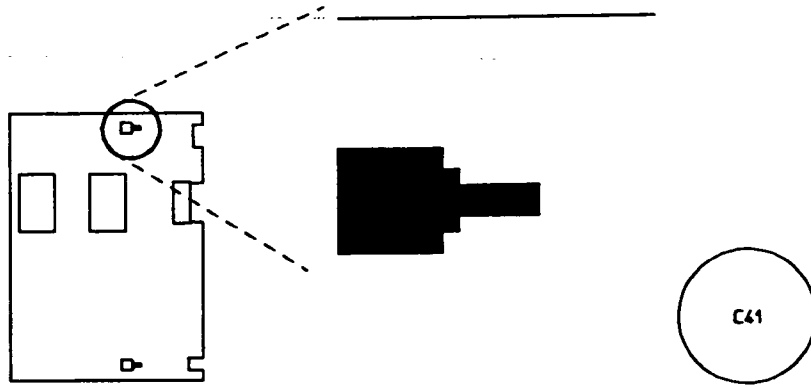
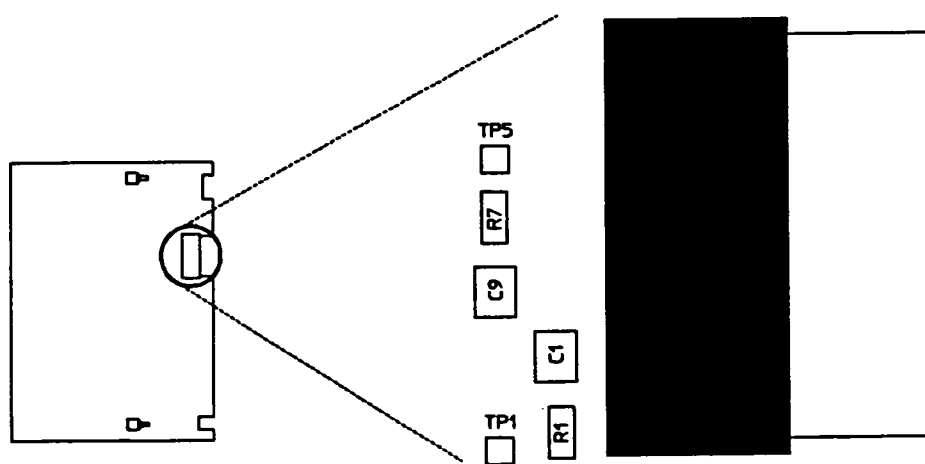

Figure 2-67. A6J2 Location
Figure 2-68. A6J4 Location
10. With the board outside of the Peak Power Analyzer, reconnect the coaxial and ribbon cables to A6J2 (see Figure 2-67) and A6J4 (see Figure 2-68).